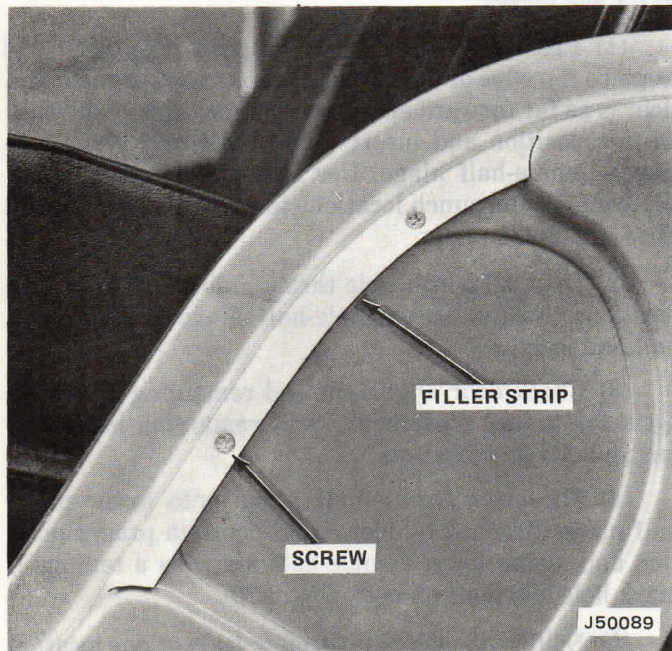

Fig. 2-21 Filler Strip Installed
(1) Position filler strip on body panel (fig. 2-21). Use filler strip as template and mark two hole locations.